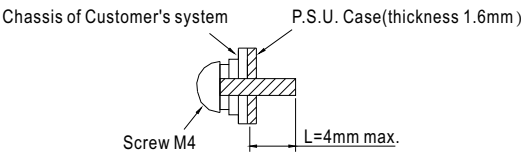

Figure 7-1 Mounting Screw
- ◎ The length L of the mounting screw must be less than 4mm when measured from the case of the NMP, as shown in Figure 7-1.